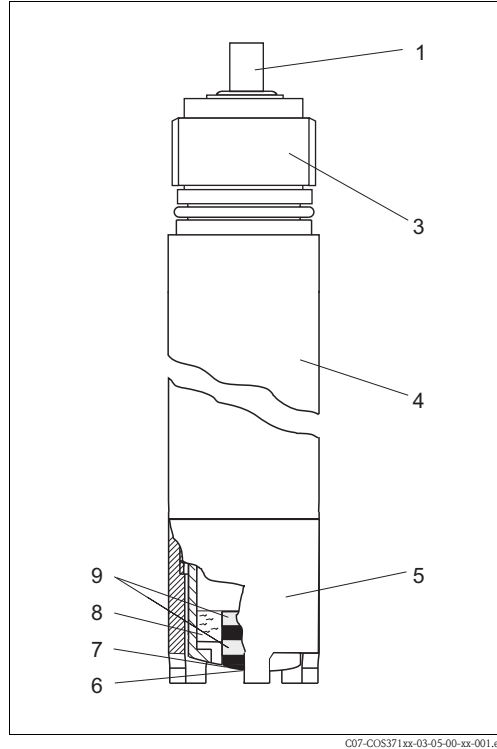

Fig. 11: Sensor design
- Sensor shaft (Fig. 11, pos. 4)
- Protection basket (Fig. 11, pos. 5)